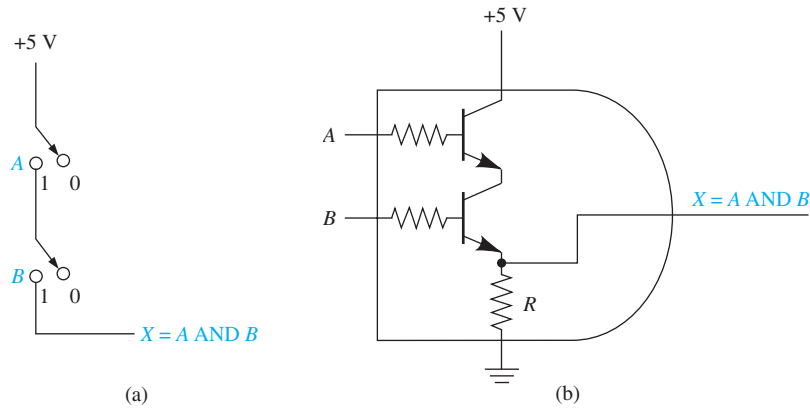

Figure 3 Electrical analogy for an AND gate: (a) using manual switches; (b) using transistor switches.
Another way to illustrate the operation of an AND gate is by use of a series electric circuit. In Figure 3, using manual and transistor switches, the output at X is HIGH if *both* switches A AND B are HIGH (1).
Figure 3 also shows what is known as the **Boolean equation** for the AND function, $X = A$ and B , which can be thought of as X equals 1 if A AND B both equal 1.
MultiSIM exercise: Use MultiSIM to open the file *fig3_11* from the text website. Run the simulation to create the waveforms shown in Figure 11. Make the following changes to the gate (U1) and rerun the simulation: